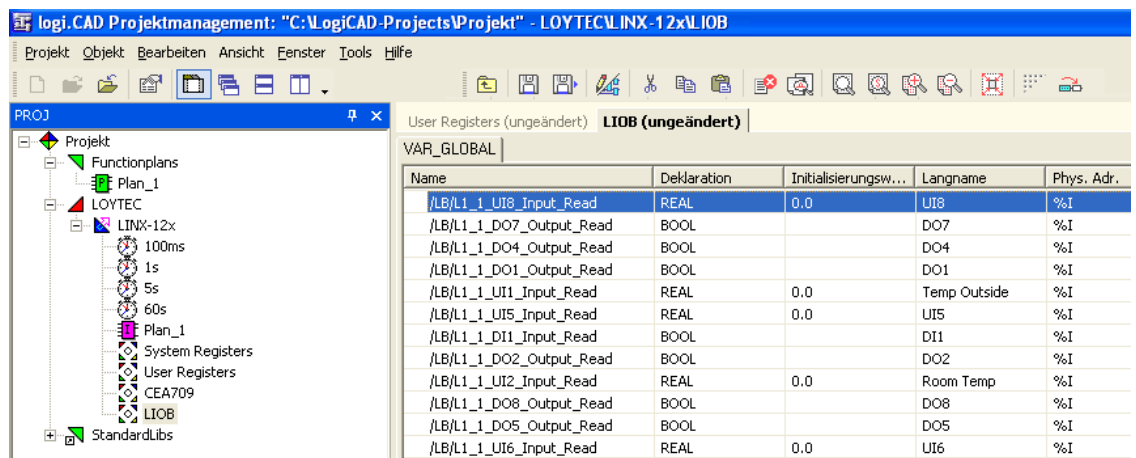

Figure 20: Exposed PLC data points appear in LogiCAD
10. The data points now appear as variables in LogiCAD in a folder under the device folder. The folder is named specific to the technology of the data points, e.g. LIOB for all L-IOB I/Os that are exposed as a PLC variable. An example is shown in Figure 20.